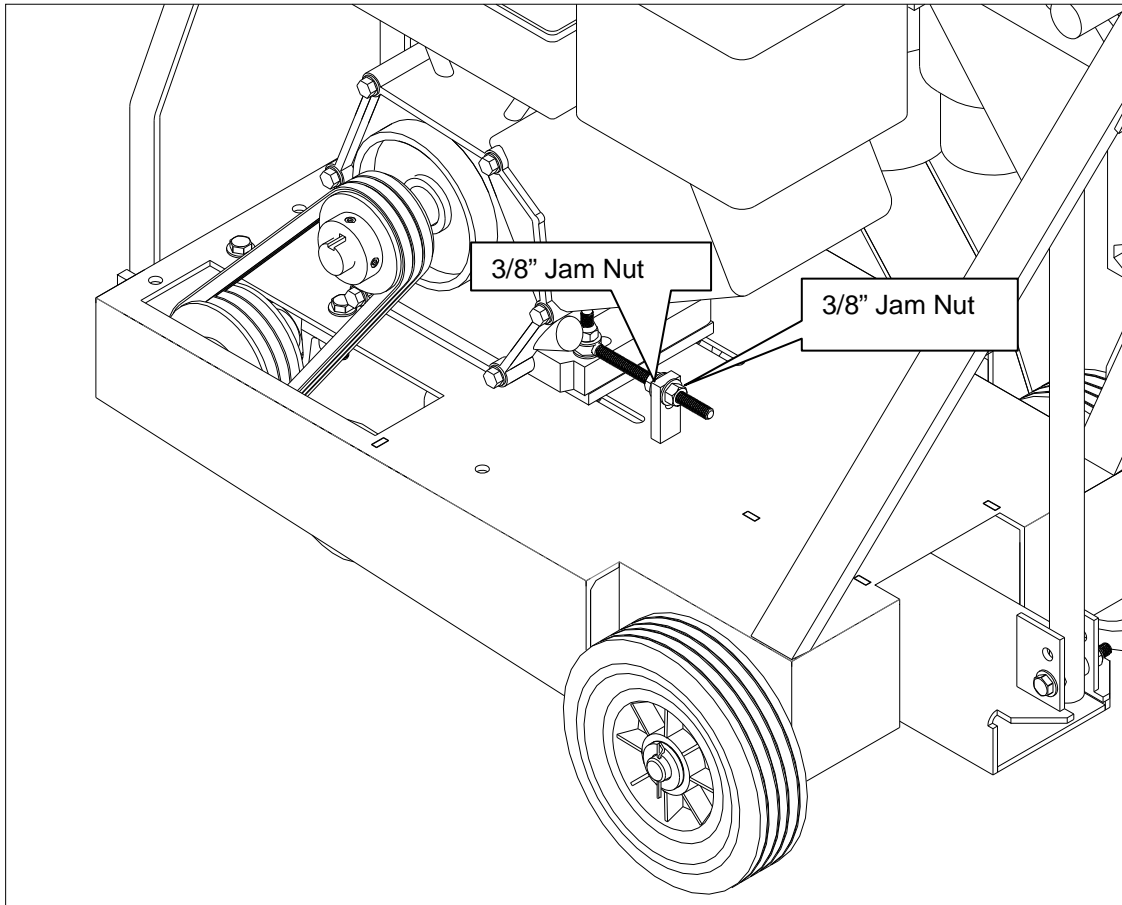

Figure: C13PE Belt Tensioning Assembly
6. To apply tension to the Belts tighten (turn clockwise) the rear 3/8" Jam Nut until the required Belt Tension is achieved. To loosen the Belts turn the front 3/8" Jam Nut counter clockwise until the required Belt Tension is achieved. (See **Figure: C13PE Belt Tensioning Jam Nut Directions**).